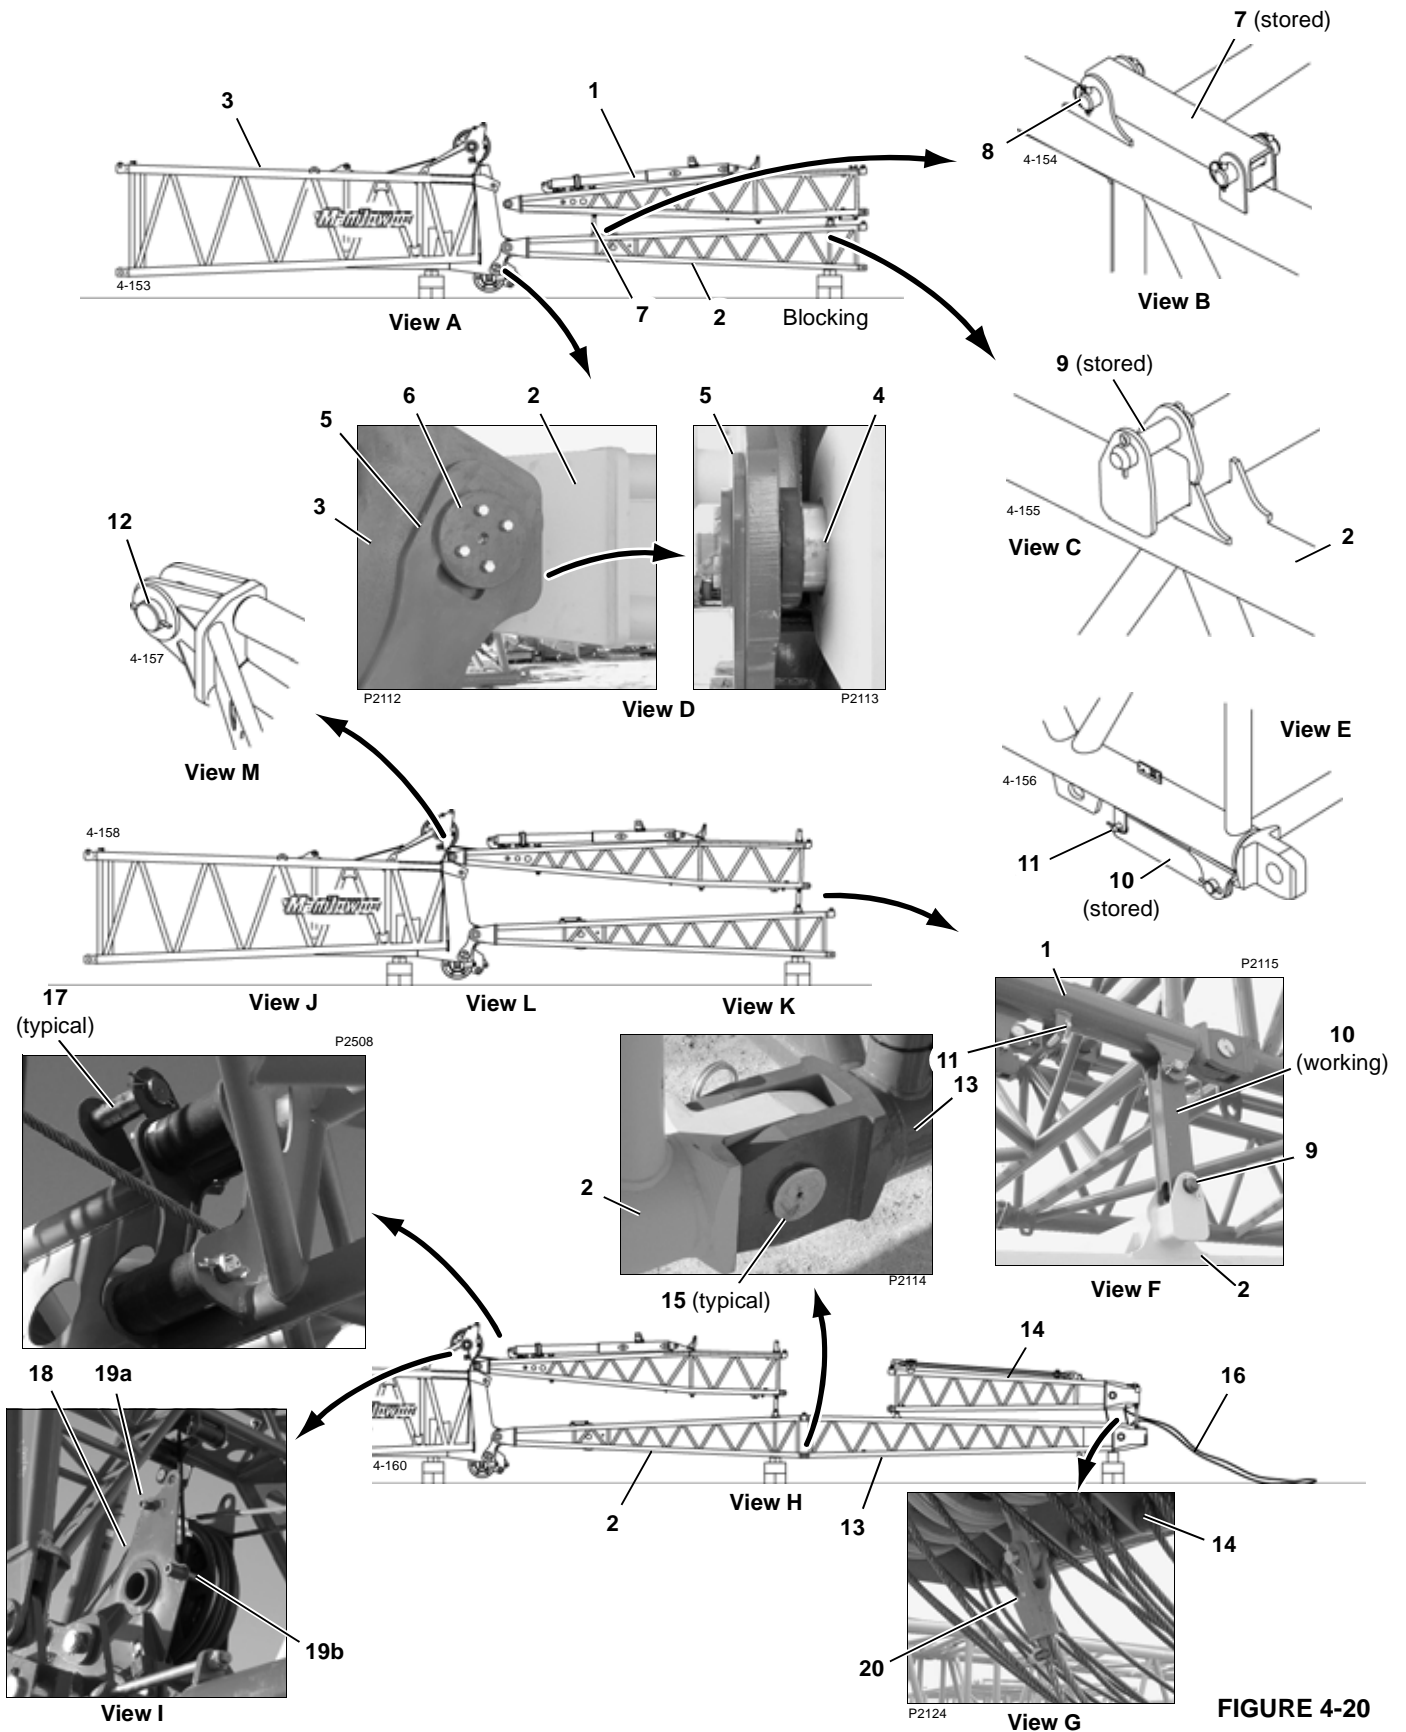

FIGURE 4-20
See Figure 4-20 for following procedure.
Shipping jib strut top (13) and main strut top (14) assembled as shown in Figure 4-20, View H allows reeving a sucker line through the luffing sheaves in the strut tops. See Luffing Jib Rigging Drawing for wire rope specifications.
- Anchor lead end of luffing hoist wire rope to socket (20, View G) in main strut top (14)
**Component Identification for Figure 4-20**
Install bottom and top connecting pins (15, Figure 4-20, View K) and safety pins.